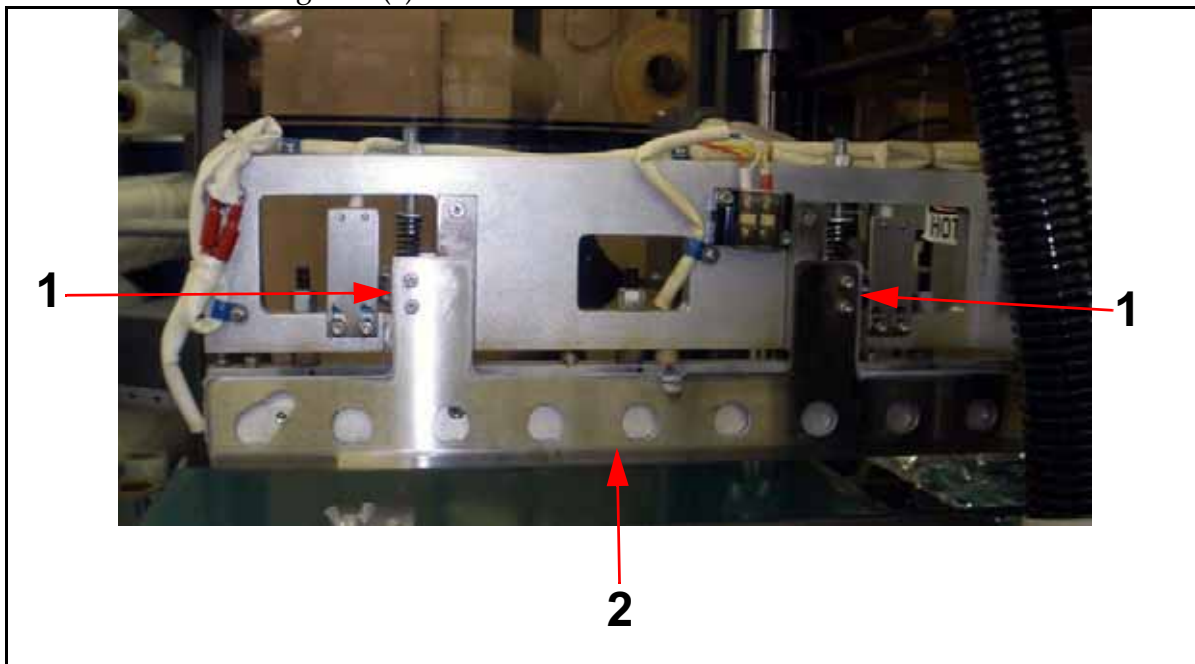

Figure 7-15. Guard Removal
- 2 Unscrew four guard mounting screws (1 in Figure 7-15) and remove guard (2).